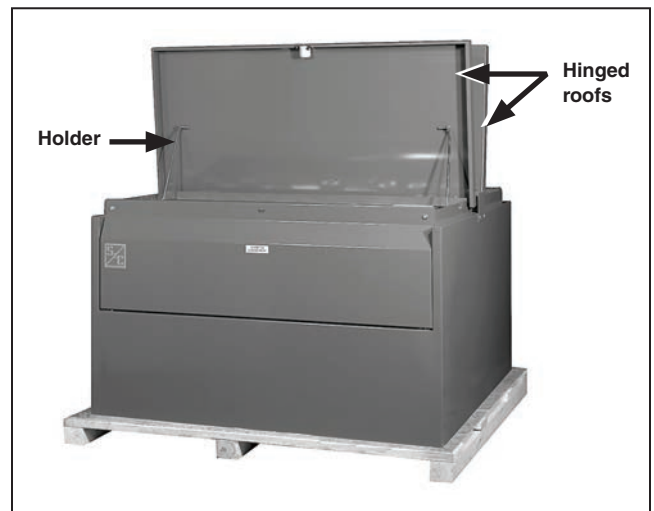

Figure 5. A pad-mounted Vista switchgear enclosure with the roofs open.
- STEP 3.** Lift the hinged roofs upward and secure them with the holders. See Figure 5.